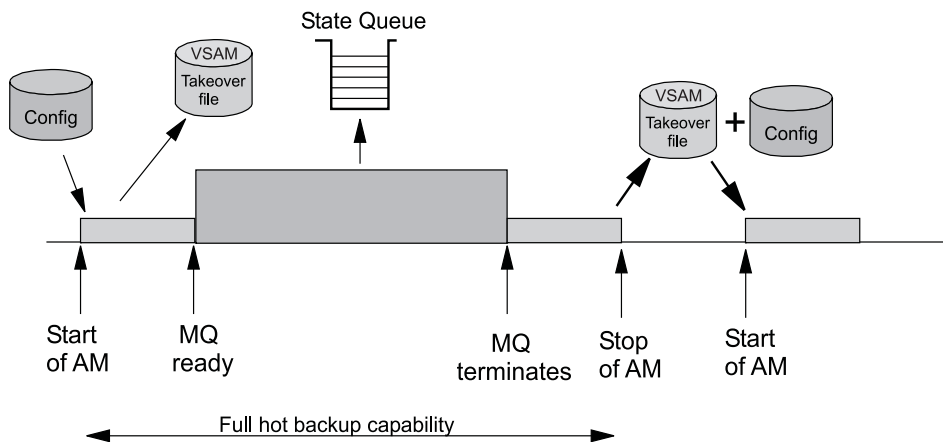

Figure 5. Automating WebSphere MQ with SA z/OS
Figure 5 on page 38 shows the timeline for the WebSphere MQ solution when WebSphere MQ is automated by SA z/OS.
2. If the PAM or its system fail during the startup phase, an SAM becomes the new PAM. The new PAM reads the actual state of the automatable resources from the takeover file. (Note that this is not represented in Figure 5.)
4. If the PAM or its system fail while WebSphere MQ is running, an SAM becomes the new PAM. The new PAM uses the information in the shared WebSphere MQ queues. (Note that this is not represented in Figure 5.)
- If there are any SAMs, one of these becomes the new PAM. (Note that this is not represented in Figure 5.)